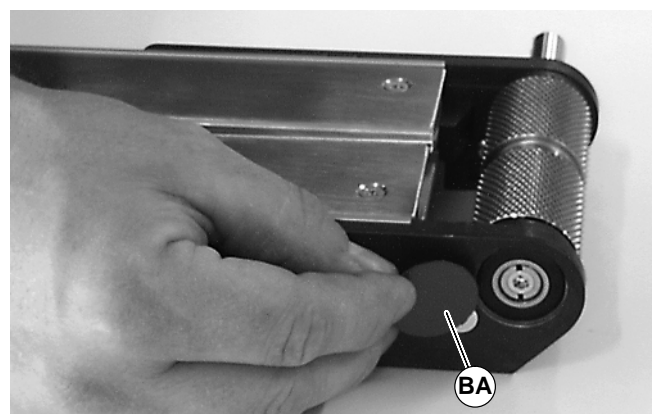

Figure 43
5. Install bearing covers (BA of Figure 43).